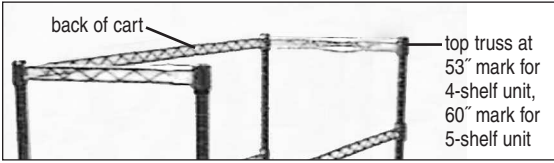

figure 4
- A Snap split sleeves onto each post, as shown in *figure 4* for location of split sleeves and top 3-sided truss.